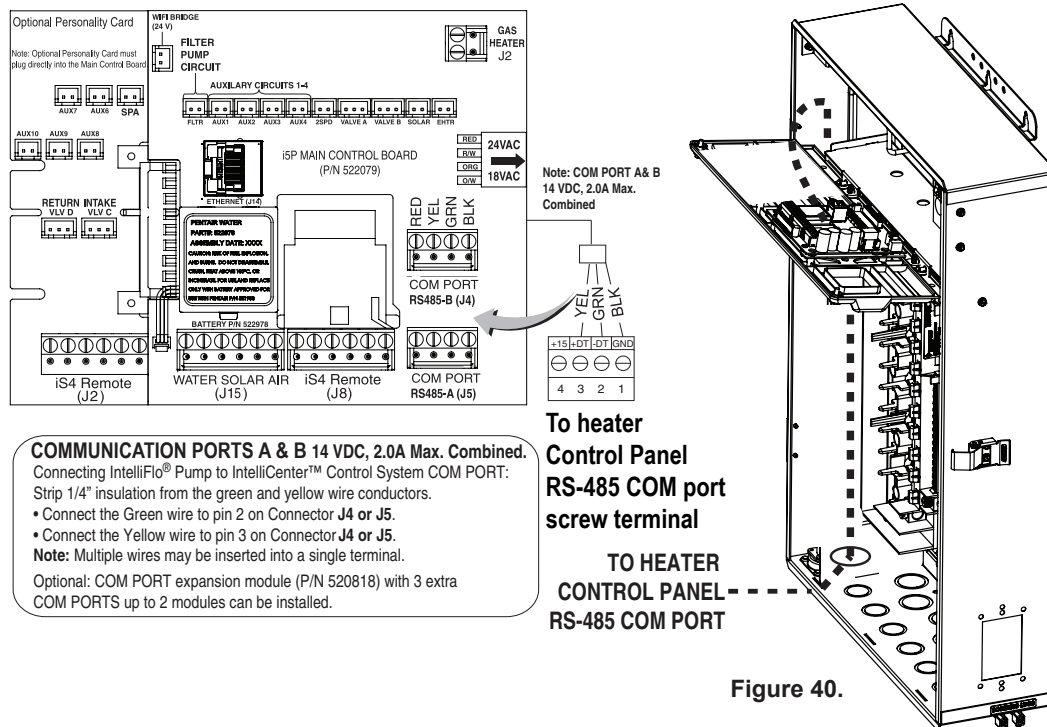

Figure 40.
2. Unlatch the front door latch and open the front door. Remove the two retaining screws from the High Voltage Cover Panel and remove the panel. **See Figure 40.**